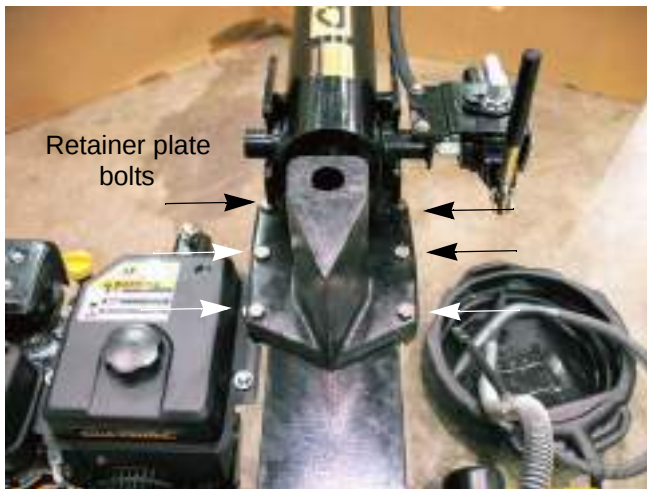

Figure 6.6
10. Remove the six nuts and bolts that attach the wedge retainer plates to the wedge using a pair of 3/4" wrenches. See Figure 6.6.